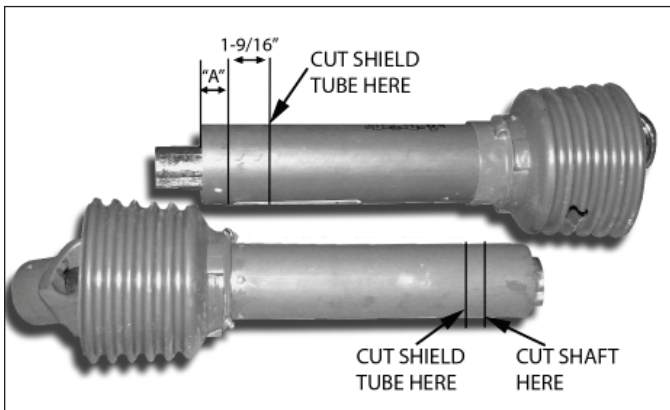

Figure 21: Shorten the driveline if it is too long
2. Measure the distance from the end of one driveline tube to the bottom of the end shield of the other driveline half (dimension A in Figure 21). Measure and mark the driveline tube 1-9/16" inward from dimension A.